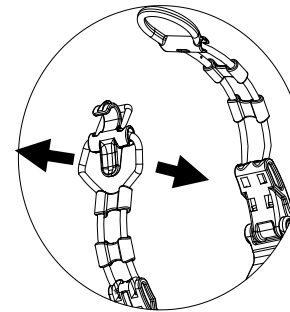
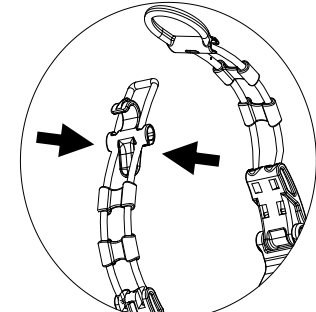

Fig.15
Fig.15-1
Refer to Fig.15& Fig.15-1.
1. Pull the elastic strap out of the strap buckle as in Fig. 15.
3. Push the elastic strap back to the strap buckle as in Fig. 15-1.